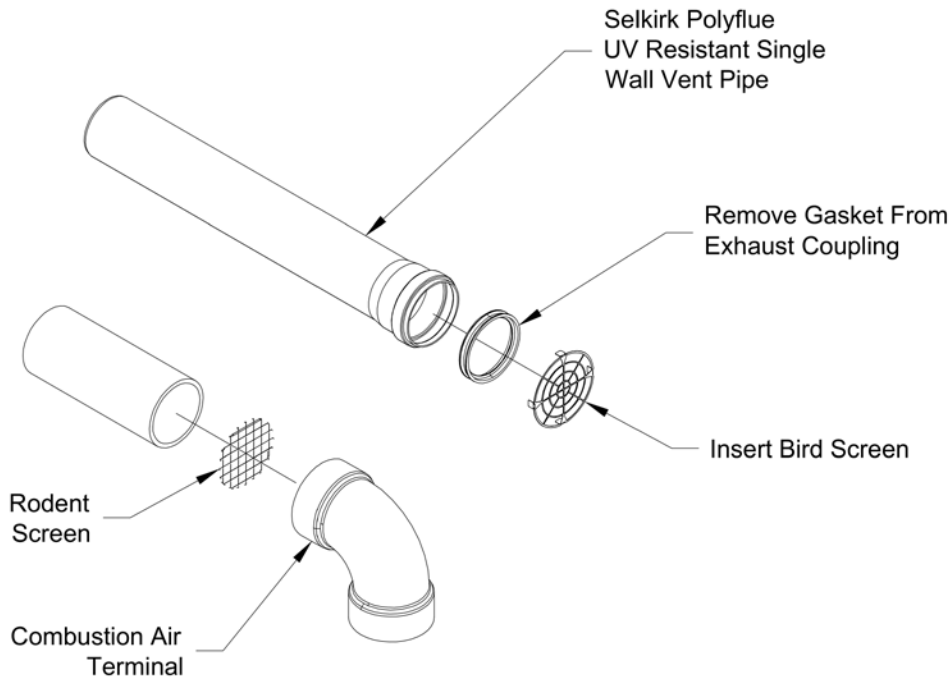

Figure 7.41: Installation of Selkirk Polyflue UV Resistant Single Wall Horizontal Terminal
- a. See Figure 7.41 for proper orientation of twin pipe horizontal terminals. Outer edge of exhaust coupling must be 10" or less from the wall surface. (Figure 7.9)